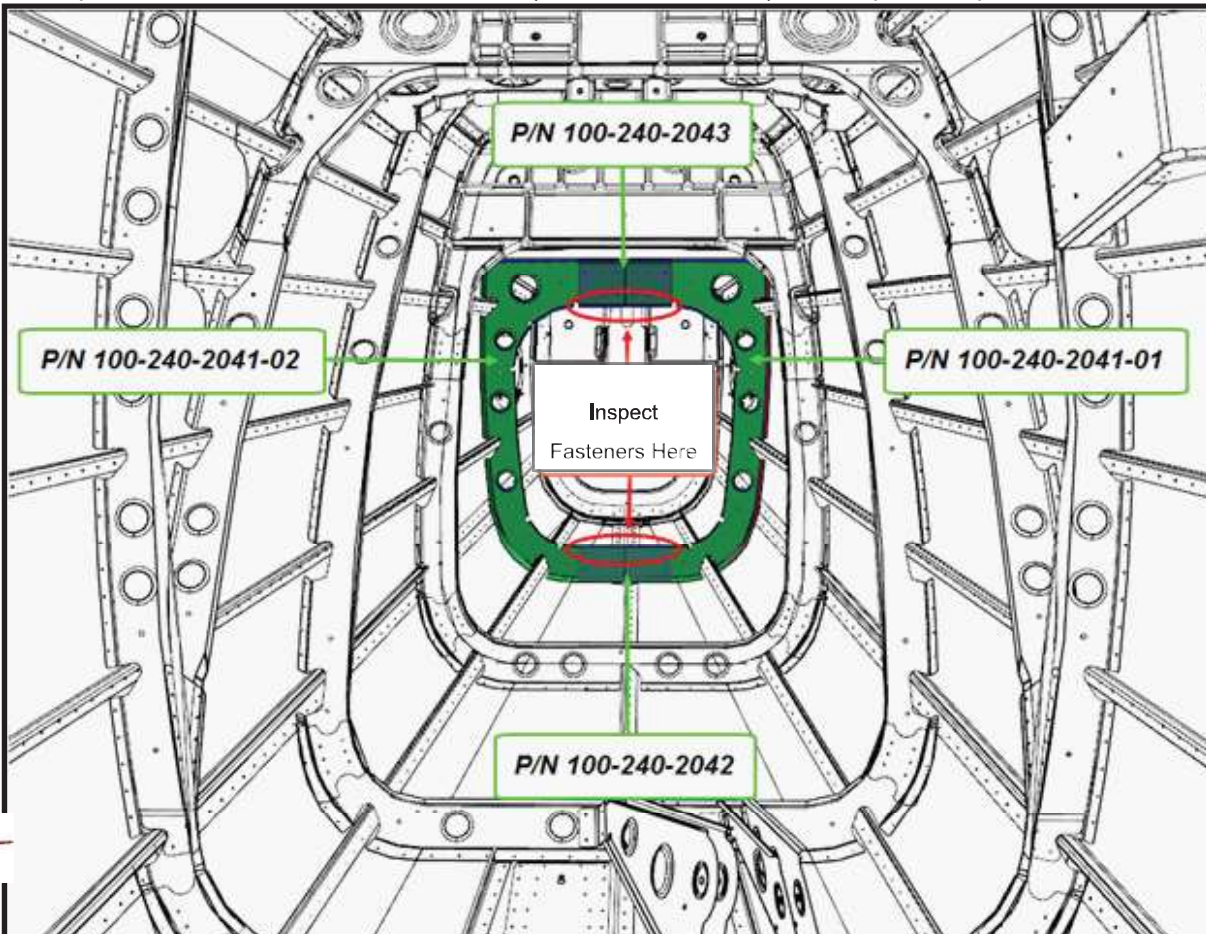
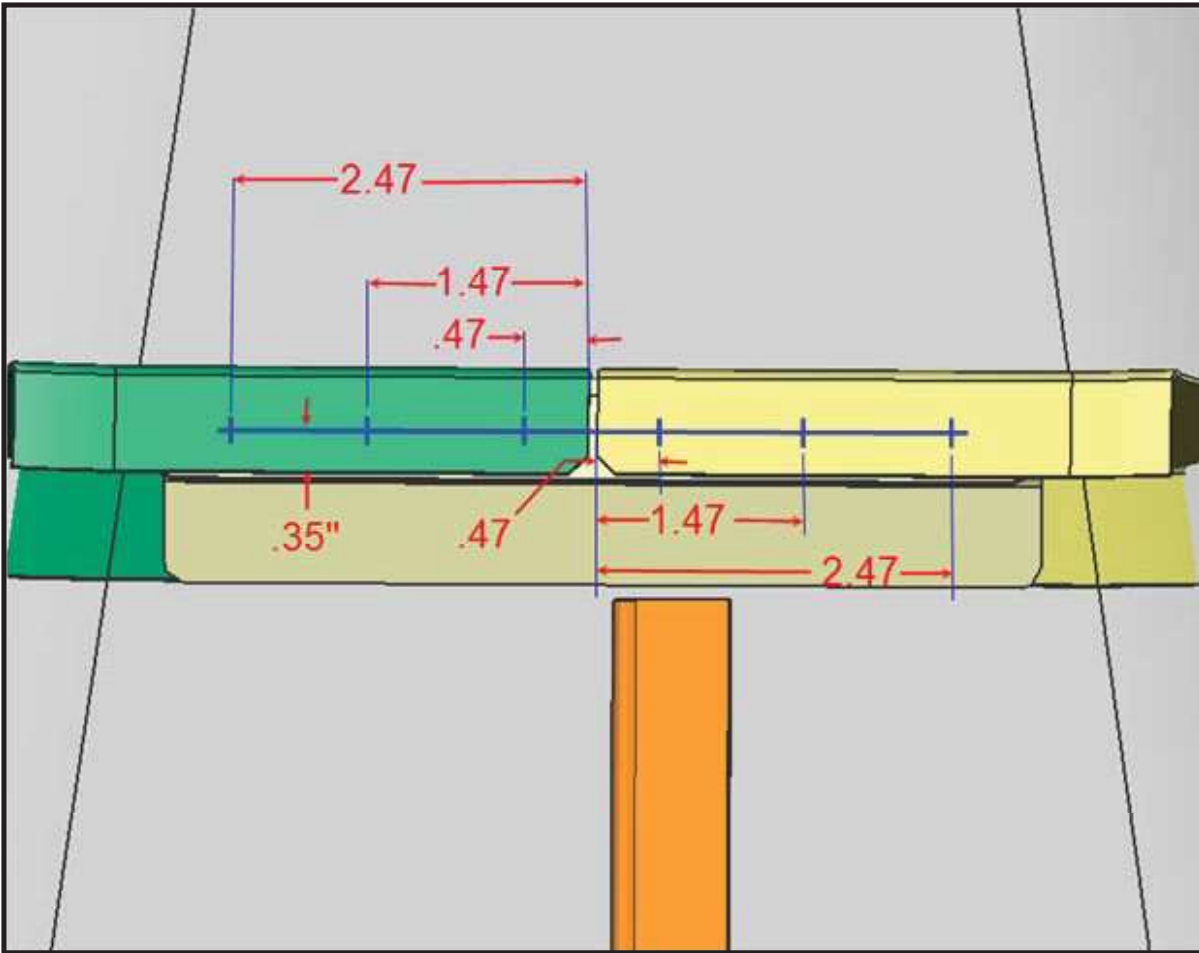

Figure 1-2 Frame location for fastener installation.
Figure 2-3 Hole Location For Top and Bottom Frame (Bottom Shown and Top Mirrored).
3. Locate the side frames (*P/N 100-240-2041-01* and *P/N 100-240-2041-02*) and bottom frame splice (*P/N 100-240-2042*) indicated in *Figure 1-2* drill the locations to "0.128-0.134" diameter holes as shown in *Figure 2-3*. in accordance with standard industry practices.
4. Locate the side frames (*P/N 100-240-2041-01* and *P/N 100-240-2041-02*) and top frame splice (*P/N 100-240-2043*) indicated in *Figure 1-2* drill the locations to "0.128-0.134" diameter holes as shown in *Figure 2-3*. in accordance with standard industry practices.